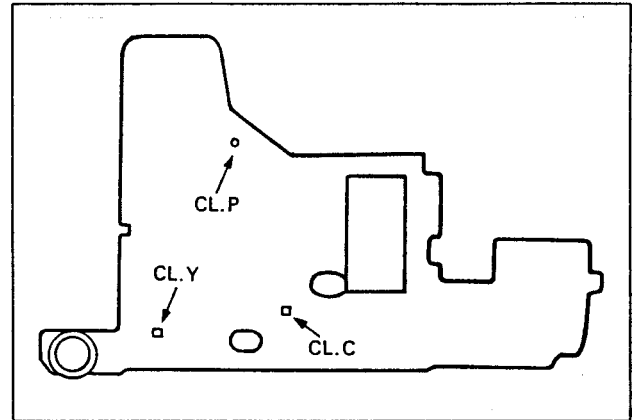

Fig. 3-21.
- Short-circuit VD1 CL. Y checker land to ground, and VD1 CL. P checker land to ground, with a jump lead (see Fig. 3-21).
- Connect a 0.01 μ F capacitor across Pin ① and Pin ⑮ (GND) of VD1 IC201.
Setup : Short-circuit VD1 CL. Y checker land to ground, VD1 CL. C checker land to ground, and VD1 CL. P checker land to ground, with a jump lead (see Fig. 3-21).
Setup : Short-circuit VD1 CL. Y checker land to ground, and VD1 CL. C checker land to ground, with a jump lead (see Fig. 3-21). Connect a 0.01 μ F capacitor across Pin ⑪ and Pin ⑮ of VD1 IC201.